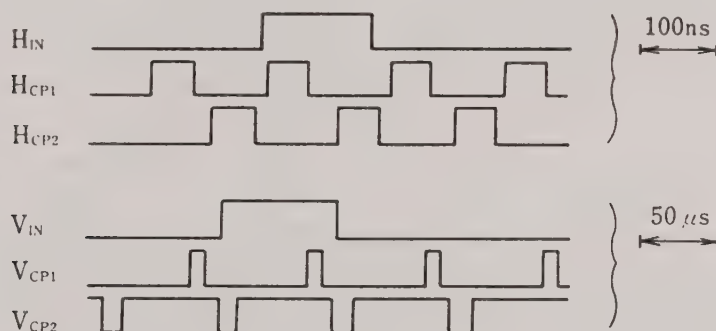

Fig. 3
- ① Lens mount: Mount the lens here.
- ② Lens mount securing ring: Used to secure the lens mount.
- ③ VIDEO output connector [VIDEO]: Connect a coaxial cable between this connector and the video monitor.
- ④ EE lens connector [EE LENS]: Connect the cable here from the lens when using an EE lens. Bear in mind that the lens power voltage is 9 V (maximum 30 mA) and so select a compatible lens.
- ⑤ External sync input connector [EXT]: Connect the cable from the sync signal generator to this connector when using the camera with external sync.
- ⑥ Camera mount: This mount is for attaching the tripod.
- ⑦ Power input connector [POWER]: Connect the connector of the supplied AC adaptor. This can also be used by connecting an optional power input connector to a regulated power supply. (Refer to Figs. 3 and 4.)